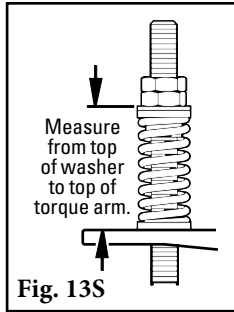

Fig. 13S
**13S. Set the correct blade tension.** Refer to the chart or the decal on the mounting base for the spring length required for the belt width. Lightly pull the pivot rod toward the end of the torque arm slot nearest the pole and turn the adjusting nuts until the required spring length is achieved (Fig. 13S). Complete steps 12S and 13S on the other side. For best results, recheck the spring length on the first side to insure there has been no movement.